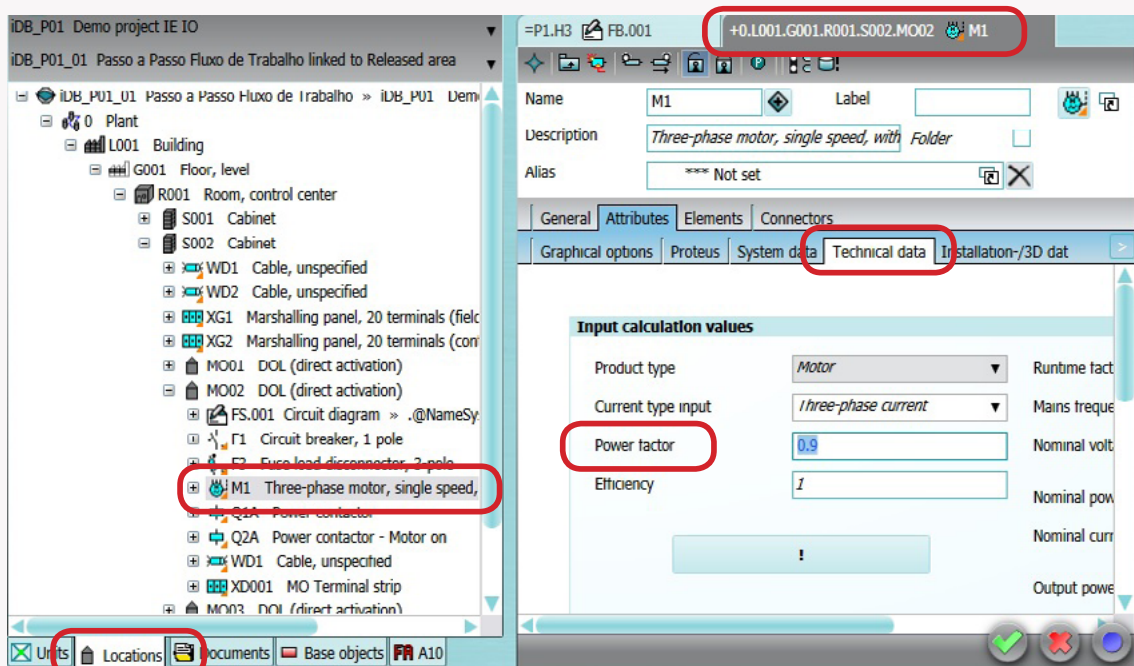

Figure 29 – Properties of the electric motor M1
- Fill in the **Power factor** field on the **Technical data** tab as shown in **Figure 29**;